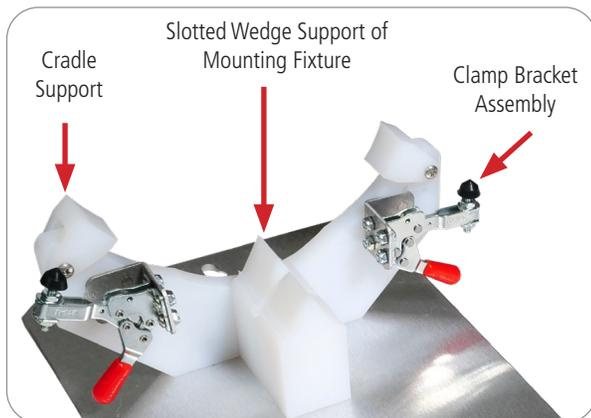

Figure 5a – Wedge Support of the Mounting Fixture
- While setting the Apex Closure in the Installation Stand, align the base of the closure with the Slotted Wedge Support of the Mounting Fixture (Figures 5a and 5b). The Slotted Wedge Support will slip into the base at any one of six receptacle positions on the Apex closure base. The wedge will restrict movement of the closure forward or backward.